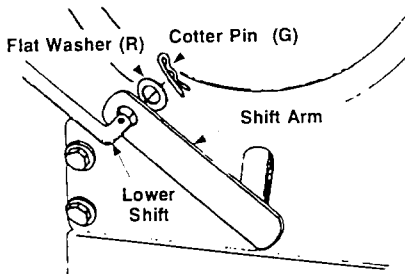

FIGURE 10
- Insert the end of the shift rod with the small hole into the shift arm assembly, located outside the snowthrower frame. Secure with flat washer (R) and cotter pin (G) (washer and cotter pin should be on the engine side of the bracket). See figure 10.